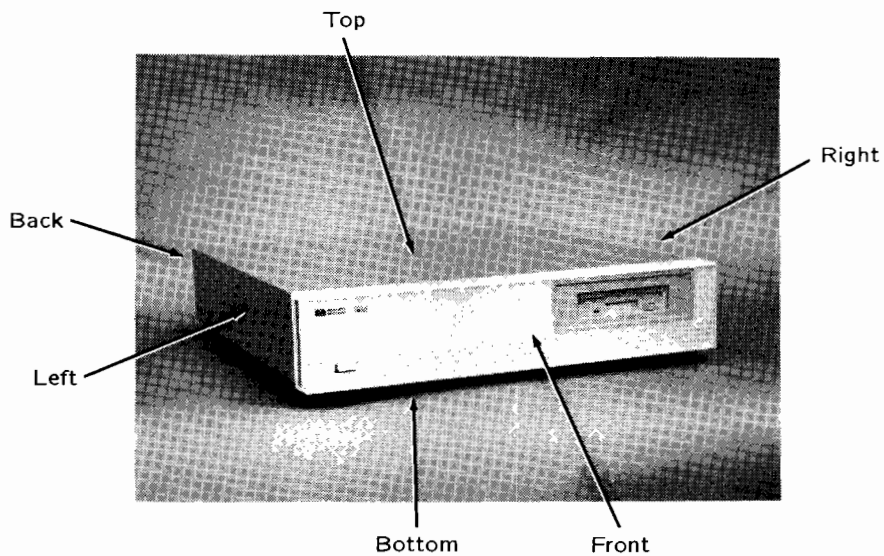

Figure 2-1. Controller Hardware Orientation
- Hardware orientation shown in Figure 2-1.